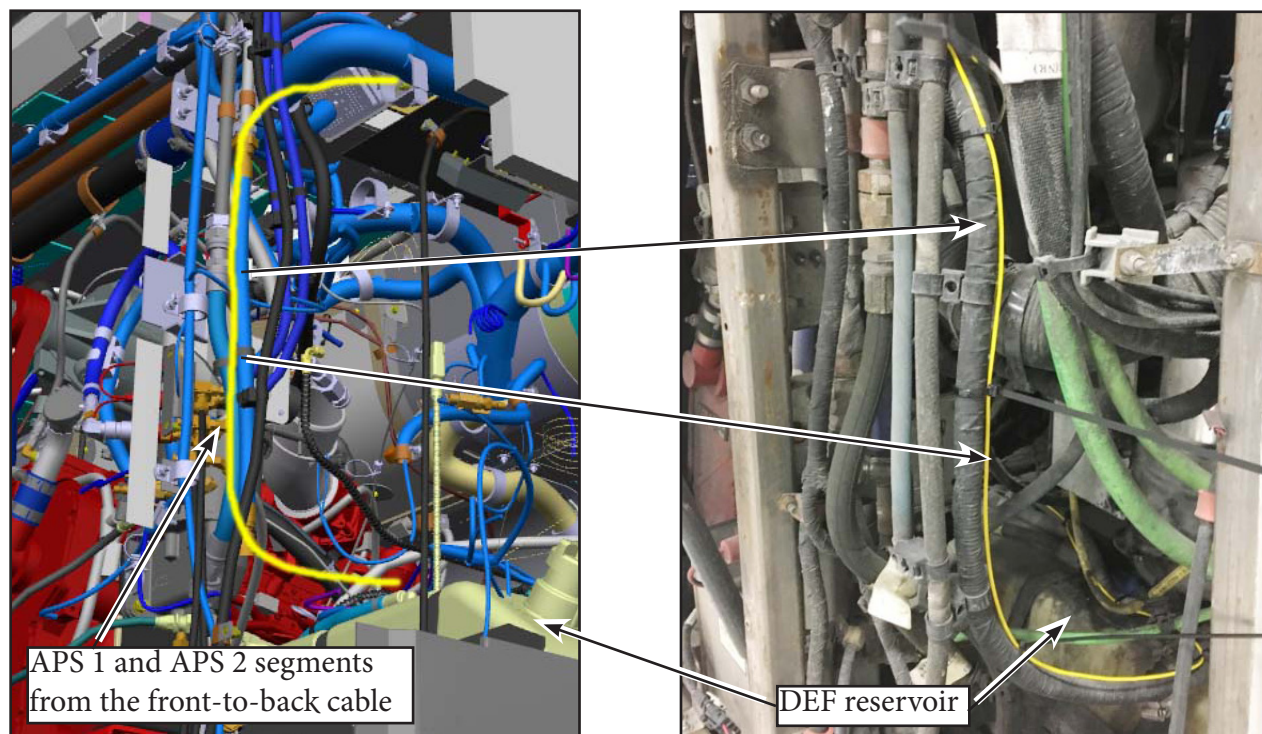

Figure 26 - Front-to-Back Cable Routing in the Hydraulic Oil Tank Area
- 2.13. Continue routing and tie-wrapping towards the second blue hydraulic hose behind the hydraulic reservoir (see Figure 26).